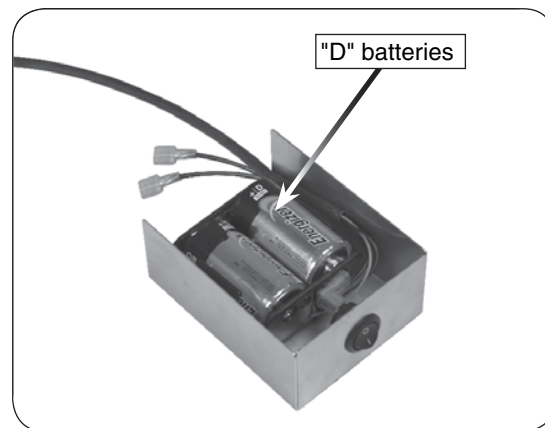

Fig. 12-2 Switch box batteries
To access the batteries, locate the switch box and turn it over. The exposed "D" battery pack is for electronic ignition. Replace the old batteries with (2) new "D" batteries. (See Fig. 12-2.)